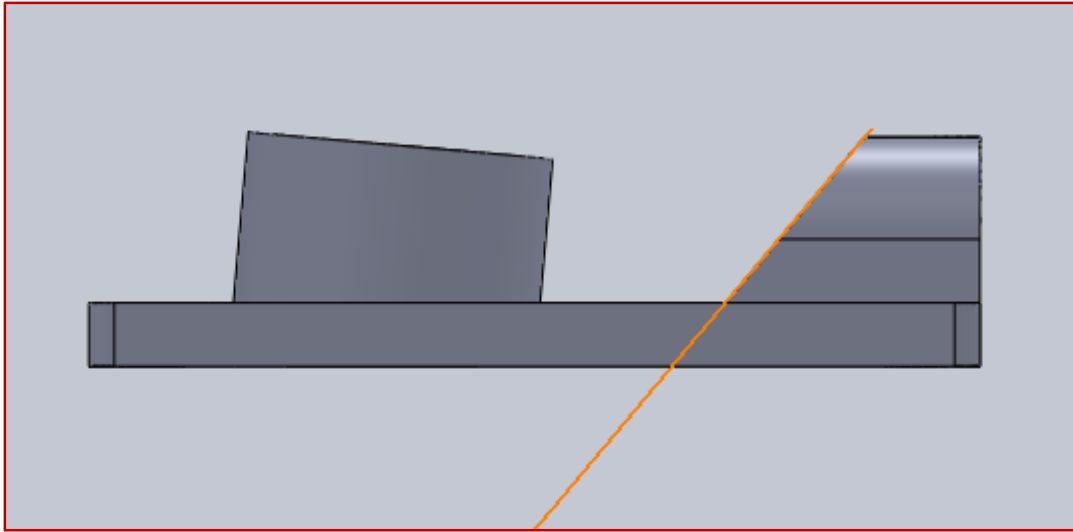

Figure 8.10 – Extrusion for the Truck Pivot Pocket
Step 68: To create a pocket for the Truck Pivot, we will start by creating a plane at a 128 degrees tilt from the top face of the base. Then we will sketch a cross-section at the end face of the base and then extrude the cross-section up to the plane created. See Figure 8.10.
- ✓ Create a centerline across the face of the base at a distance of one inch from the edge of the base. See Figure 8.10.
- ✓ Next, create a new plane by rotating the top surface of the base 128 degrees clockwise. See Figure 8.10. Use the command Insert → Reference Geometry → Plane with the top face of the Base as the **First Reference** and the centerline created earlier as the **Second Reference**.